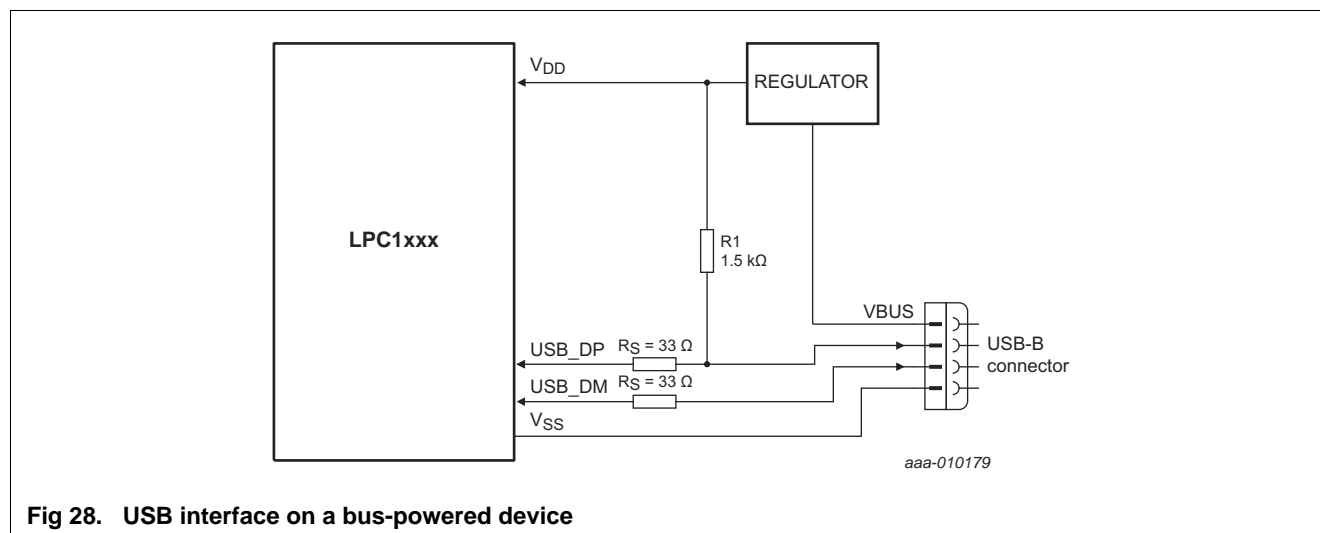

Fig 28. USB interface on a bus-powered device
For a bus-powered device, the VBUS signal does not need to be connected to the USB\_VBUS pin (see Figure 28). The USB\_CONNECT function can additionally be connected as shown in Figure 27 to prevent the USB from timing out when there is a significant delay between power-up and handling USB traffic.
**Remark:** When a bus-powered circuit as shown in Figure 28 is used, configure the PIO0\_3/USB\_VBUS pin for GPIO (PIO0\_3) in the IOCON block to ensure that the USB\_CONNECT signal can still be controlled by software. For details on the soft-connect feature, see the *LPC11U3x user manual* (Ref. 1).